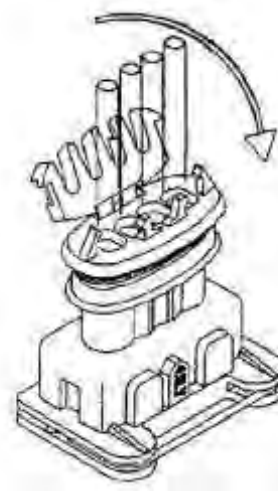

Figure 110
- (5) Close secondary lock as shown in Figure 110.